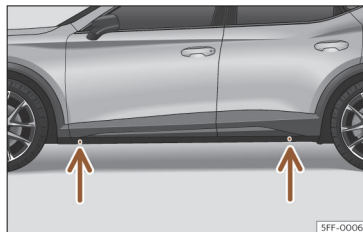

Fig. 238 Jack position points.
- Look on the strut for the mark of the jack support point (sunken area) closest to the wheel to be changed >>> **Fig. 238**.